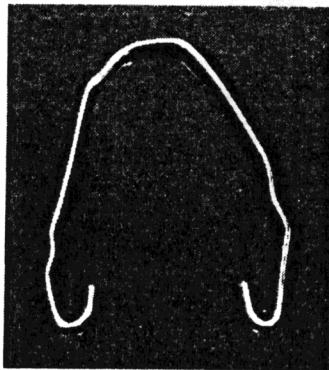

Figure 2-11 Homemade Key Cap Removal Tool
- Use a paper clip to fashion a key cap removal tool (see Figure 2-11) or use the removal tool in the tools PSP.